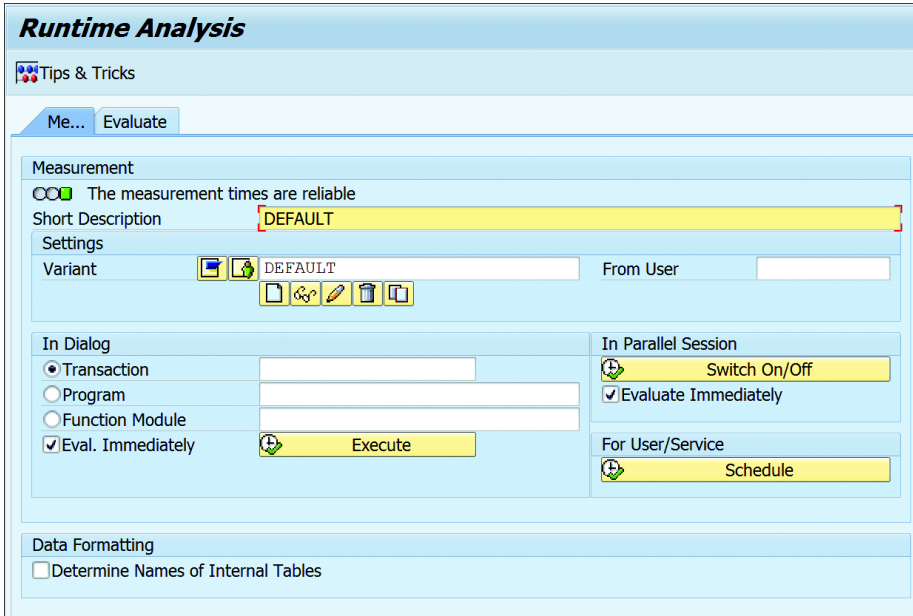

Figure 21.26 Runtime Analysis Initial Screen
2. On the initial screen of the transaction, as shown in Figure 21.26, you can enter the PROGRAM name, TRANSACTION, or FUNCTION MODULE to evaluate. The EVAL. IMMEDIATELY checkbox allows you to display the results immediately, whereas unchecking this checkbox will allow you to run consecutive tests.